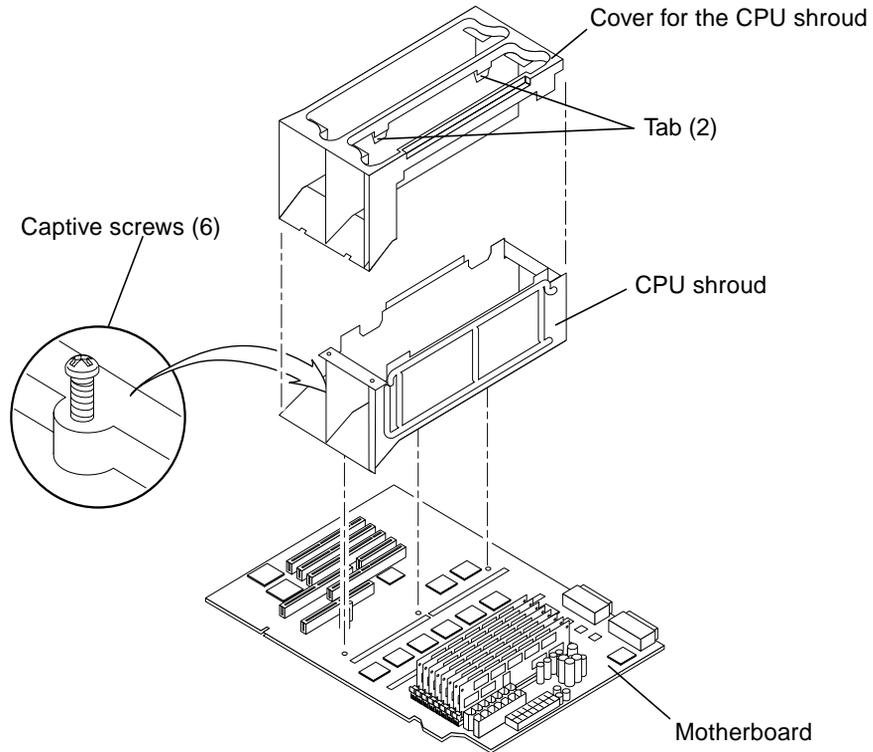

FIGURE 8-21 Removing and Replacing the CPU Shroud
- 4. Remove the cover for the CPU shroud (FIGURE 8-21).**
- 7. Lift the CPU shroud from the motherboard (FIGURE 8-21).**
1. **Position and properly align the CPU shroud on the motherboard** (FIGURE 8-21).
4. **Replace the CPU shroud cover** (FIGURE 8-21).